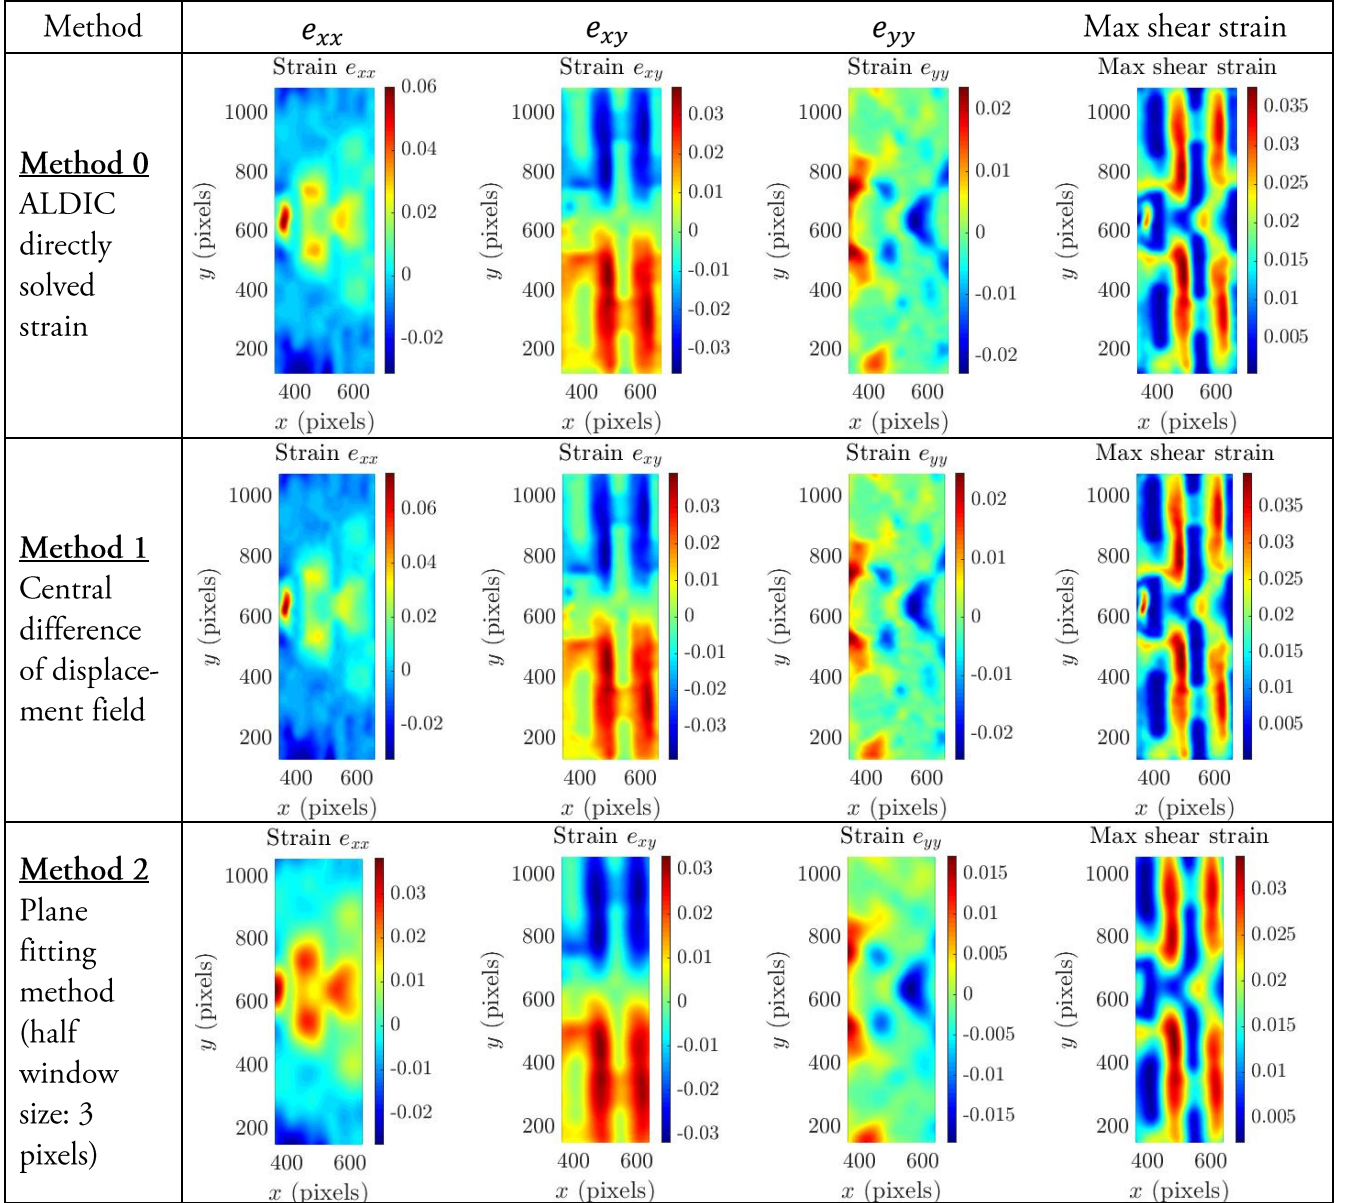

Figure 11. Solved strain fields by ALDIC method.
E.g., different methods to compute strain fields of our example are shown in Figure 11, and results of multi-frames in the image sequence are stored in “./results\_frac\_heter/”.